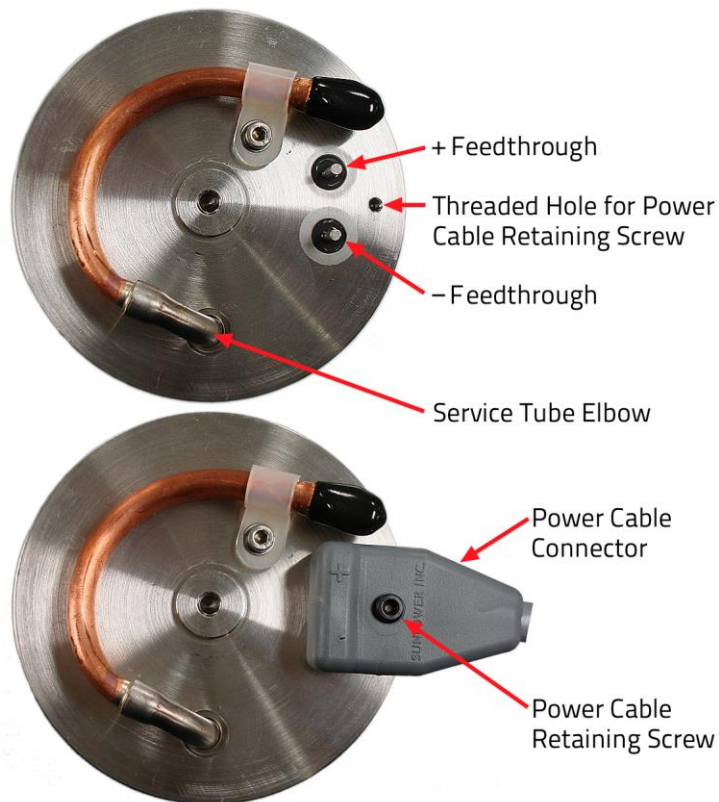

Figure 3-11. Attaching the Cooler Power Cable to the Pressure Vessel
2. Align the two holes in the molded plastic connector on the one end of the cooler power cable with the two feedthrough pins on the end of the GT's pressure vessel and press down to connect the connector (figure 3-11).